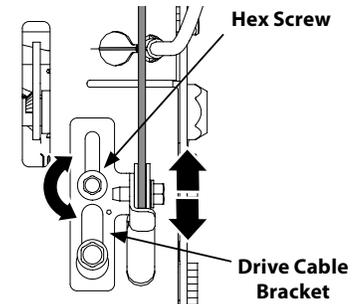

Figure 2-56
2. Loosen upper hex screw on drive cable bracket. See Figure 2-56.